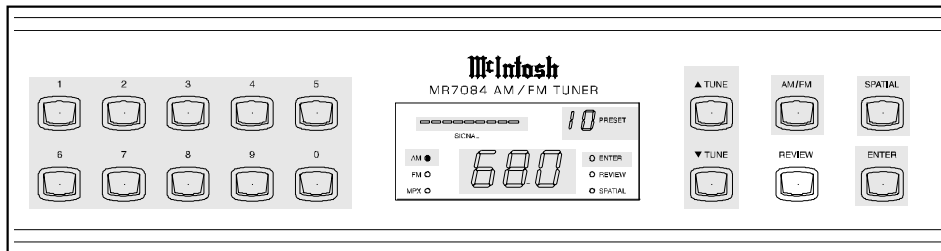

Figure 2
- Select the AM broadcast band. Refer to figure 2.